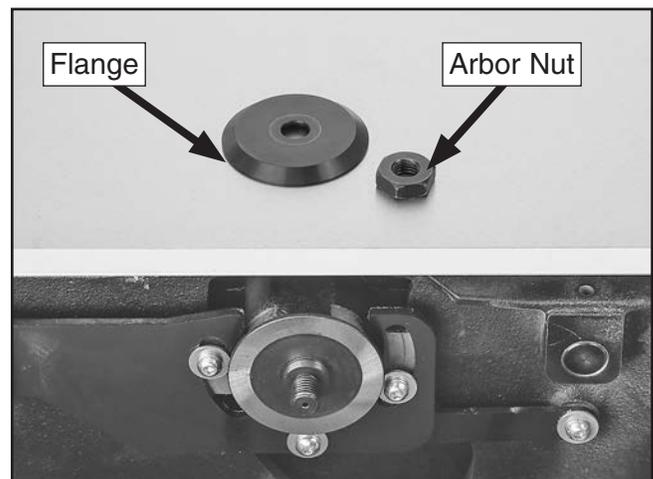

Figure 32. Flange and arbor nut removed from arbor.
- Continue unthreading arbor nut clockwise until you can remove blade flange (see **Figure 32**).